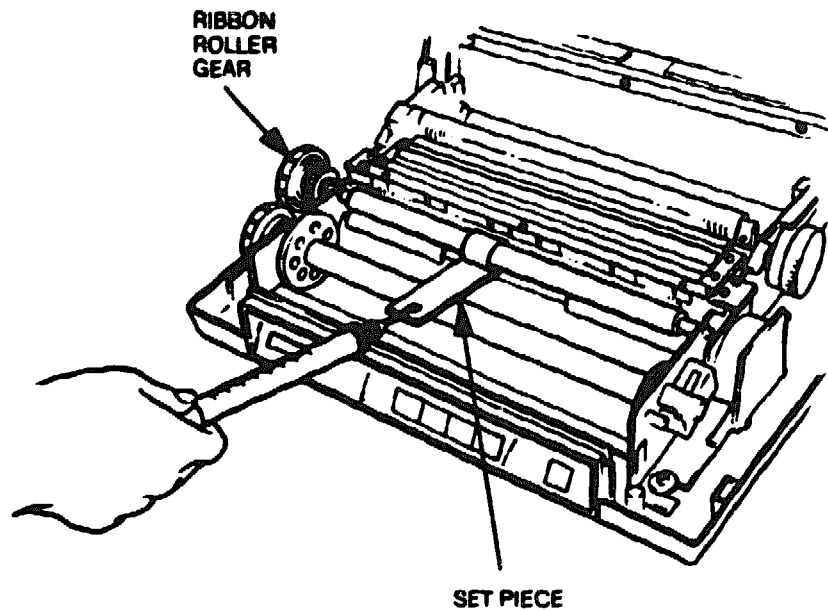

Figure 4-10 Ribbon Feed Roller Feeding Force Adjustment
3. Wind the set piece two complete turns around the ribbon feed roller (see Figure 4-10). Then hold the ribbon roller gear so it doesn't turn and, as shown in Figure 4-10, pull the set piece as slowly as possible using a 2000 g tension gauge. Monitor the amount of force (as measured by the tension gauge) required to cause the roller to rotate. The standard force value is 1.6 to 2.0 kg. If the value obtained by pulling on the set piece is not between 1.6 and 2.0 kg, proceed as follows.